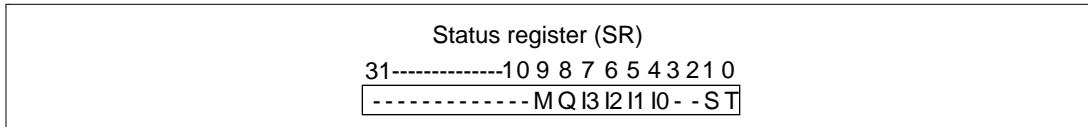

Figure 1.2 Status Register
Status Register (SR): The status register (SR) is 32 bits in length and indicates CPU processing states (figure 1.2). The functions of each bit in the SR are given in table 1.2.